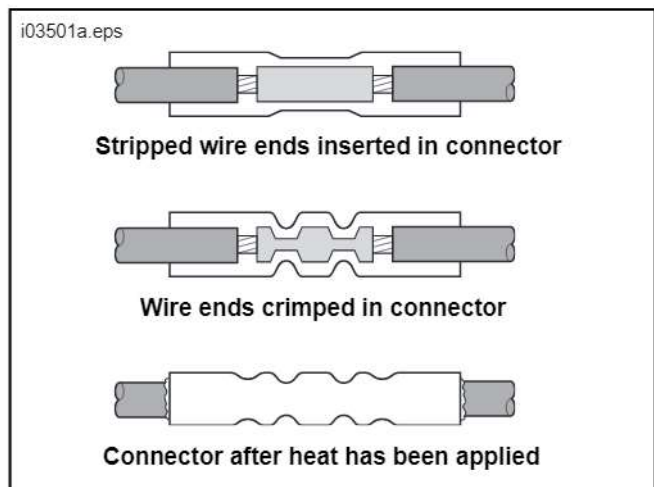

Figure 17. Installing Butt Connectors
7. Use a tie strap (14) from the kit to bundle the wires from the left and right screws where they come together.
9. See Figure 17, and the BUTT SPLICE CONNECTORS section of the Service Manual. Remove approximately 3/8 in. (10 mm) of insulation from the end of each wire. Insert the black wire from each lighted screw into one end of a butt-splice electrical connector (15) from the kit, and crimp with a Crimp Tool, Part No. H-D 38125-8.
10. Slide a piece of heat-shrink tubing (16) over the end of the black wire assembly (7) from the kit. Remove approximately 3/8 in. (10 mm) of insulation from the end of the wire without the terminal, and insert it into the other end of the butt-splice connector. Crimp with the Crimp Tool.
11. Repeat Steps 9 and 10 with the red wires from each lighted screw and the red wire assembly (8) from the kit.